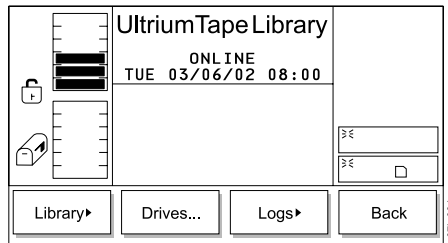

Figure 111. Status Menu
1. From the Main Menu's initial screen, press the button below the **Status** softkey. The Status Menu displays (see Figure 111).